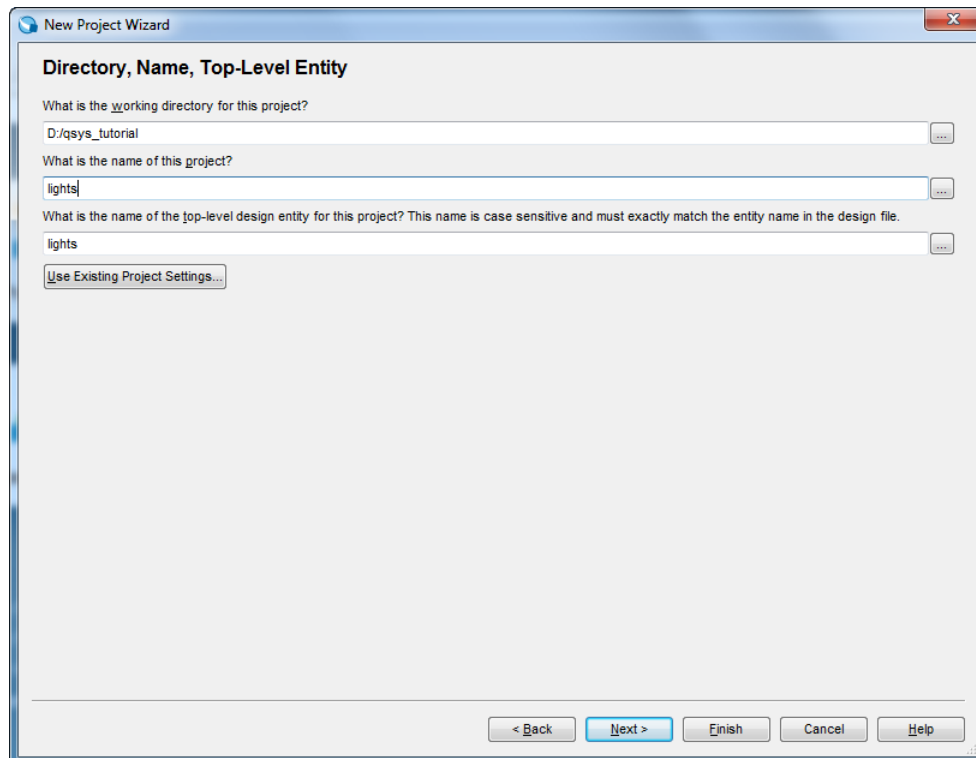

Figure 3. Create a new project.
1. Create a new Quartus Prime project for your system. As shown in Figure 3, we stored our project in a directory called *qsys_tutorial*, and we assigned the name *lights* to both the project and its top-level design entity. You can choose a different directory or project name. Step through the screen for adding design files to the project; we will add the required files later in the tutorial. In your project, choose the FPGA device used on your DE-series board. A list of FPGA devices on the DE-series boards is given in Table 1.